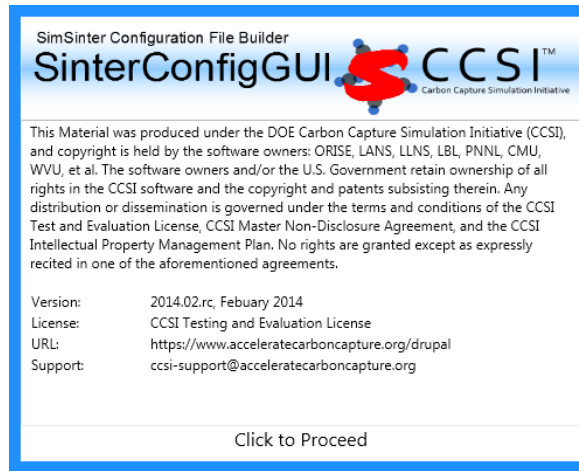

Figure 2: SimSinter Splash Screen
1. Initially the SimSinter Configuration File Builder splash screen displays, as shown in Figure 2. Either click the splash screen to proceed or wait 10 seconds for the screen to close automatically.